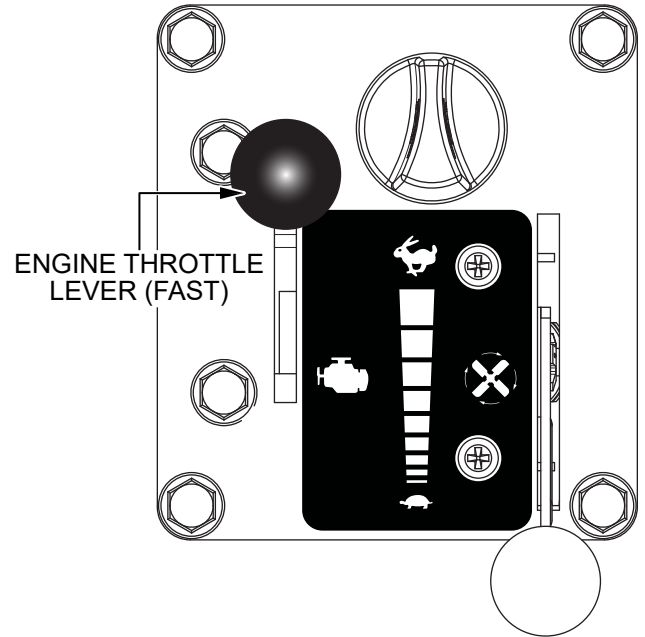

Figure 23. Engine Throttle Lever (Fast)
6. Place the **engine throttle lever** in the **FAST** (rabbit) position. See Figure 23.